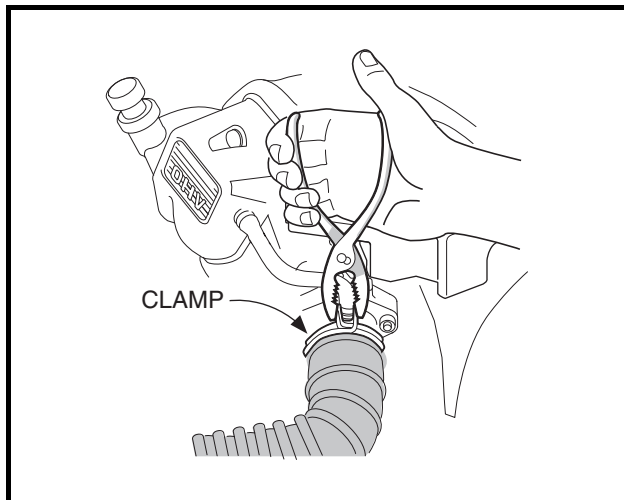

Figure 16-10 Air Intake Hose
- 4.2. Disconnect the air intake hose from the carburetor (Figure 16-10, Page 16-7).